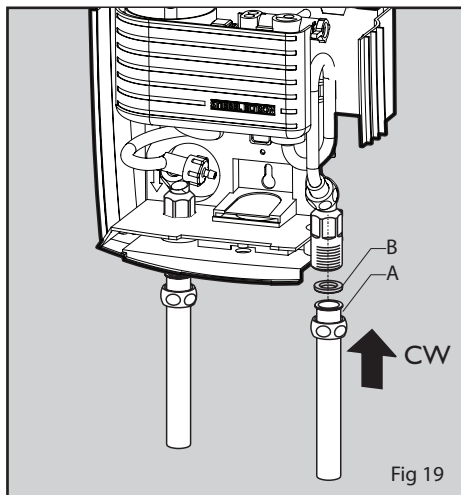

Fig 19
- Screw the joints on the unit (Fig 19/A) to the pipe (both hot and cold water), using a rubber leakage gasket (Fig 16/B) between the joints.